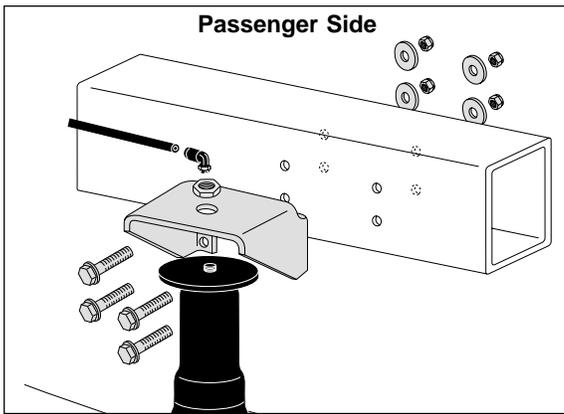

Figure 7
IMPORTANT: This kits mounts behind the axle. Figure 1 shows the installation for the driver side only. Refer to Figure 7 for the passenger side installation.
g. Drill the remaining hole out to a $\frac{3}{8}$ " diameter and install a $\frac{3}{8}$ " washer head bolt (N), a large flat washer (M), and a nylock nut (K).
3. **PASSENGER SIDE INSTALLATION:** Install the passenger side assembly in the same manner, with the exception to the forward upper hole location. Drill this hole to a $\frac{3}{8}$ " diameter and install a $\frac{3}{8}$ " washer head bolt (N), a large flat washer (M), and a nylock nut (K). No self tapper is used on the passenger side. Refer to Figure 7.